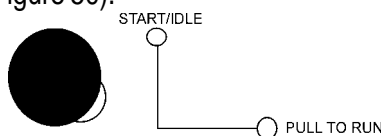

Figure 50. Engine Throttle Lever (IDLE)
7. If the generator is equipped with a engine throttle lever, make sure the lever is pushed in and set to 'IDLE' (Figure 50).